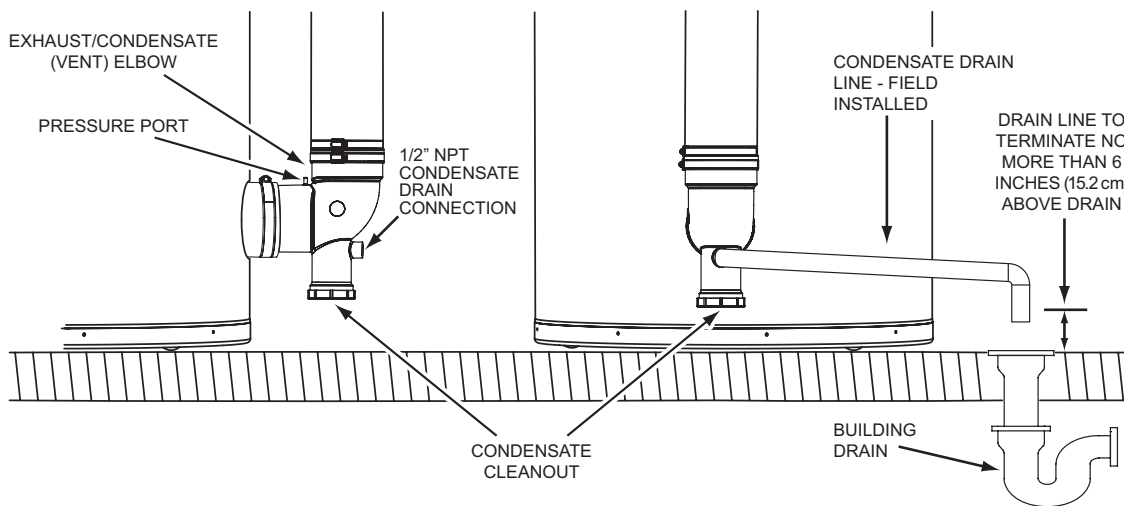

Figure 36. Condensate Drain Installation
2. Install a 1/2 inch PVC condensate drain line between condensate drain connection on the Exhaust/Condensate Elbow and a suitable building drain. The condensate line must slope to an open drain, see Figure 36.
3. Terminate the condensate drain piping with an elbow above the drain. Ensure that any discharge will exit the condensate drain line no more than 6 inches (15.2 cm) above a suitable building drain, or external to the building, see Figure 36.
4. Ensure the condensate drain line is not elevated above the condensate drain connection on the Exhaust/Condensate Elbow, see Figure 36.